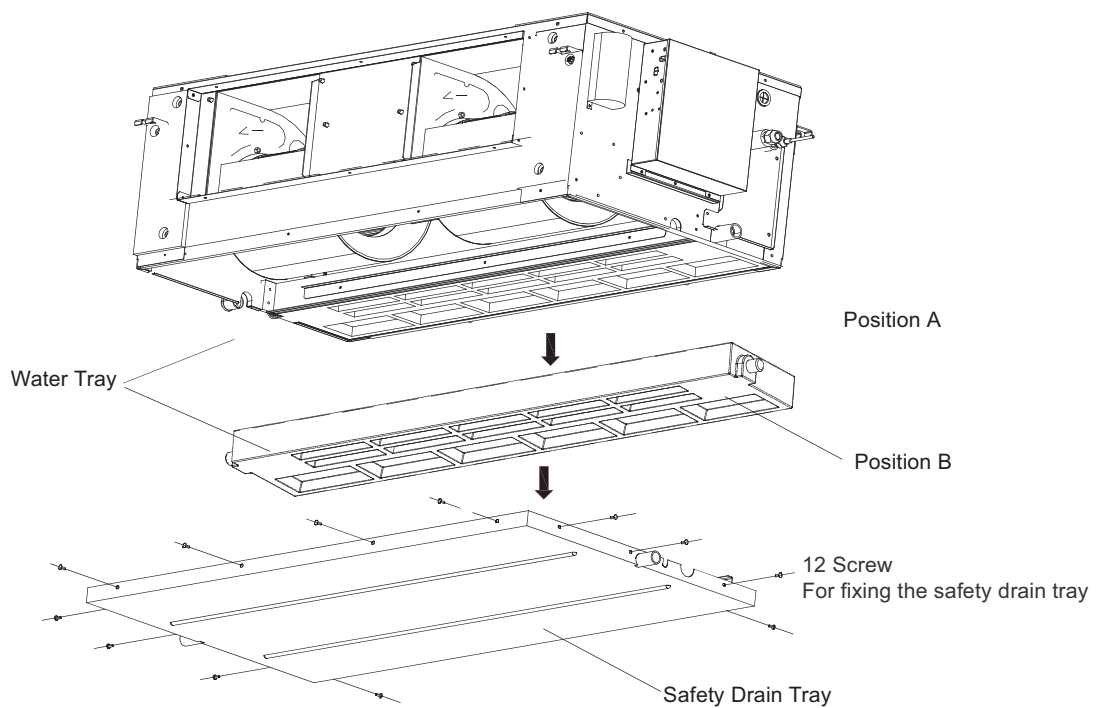

Fig.4-11
2. Remove the all 11 screw from fixed Safety Drain Tray, and then take off the tray as figure showed in Fig.4-11.
3. Take off the tray along the direction of the arrow show in Fig.4-11.